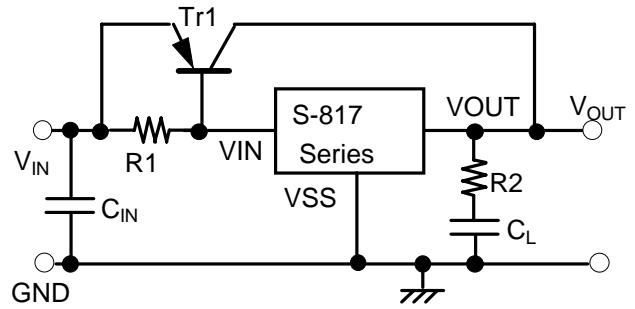

Figure 8 Output Current Boosting Circuit
As shown in Figure 8, the output current can be boosted by externally attaching a PNP transistor. The base current of the PNP transistor is controlled so that output voltage  $V_{OUT}$  goes the voltage specified in the S-817 when base-emitter voltage  $V_{BE}$  necessary to turn on the PNP transistor is obtained between input voltage  $V_{IN}$  and S-817 power source pin  $V_{IN}$ .
- To improve transient response characteristics of the output current boosting circuit shown in Figure 8, check that no problem occurs due to output fluctuation at powering on or due to power or load fluctuation under normal operating conditions.